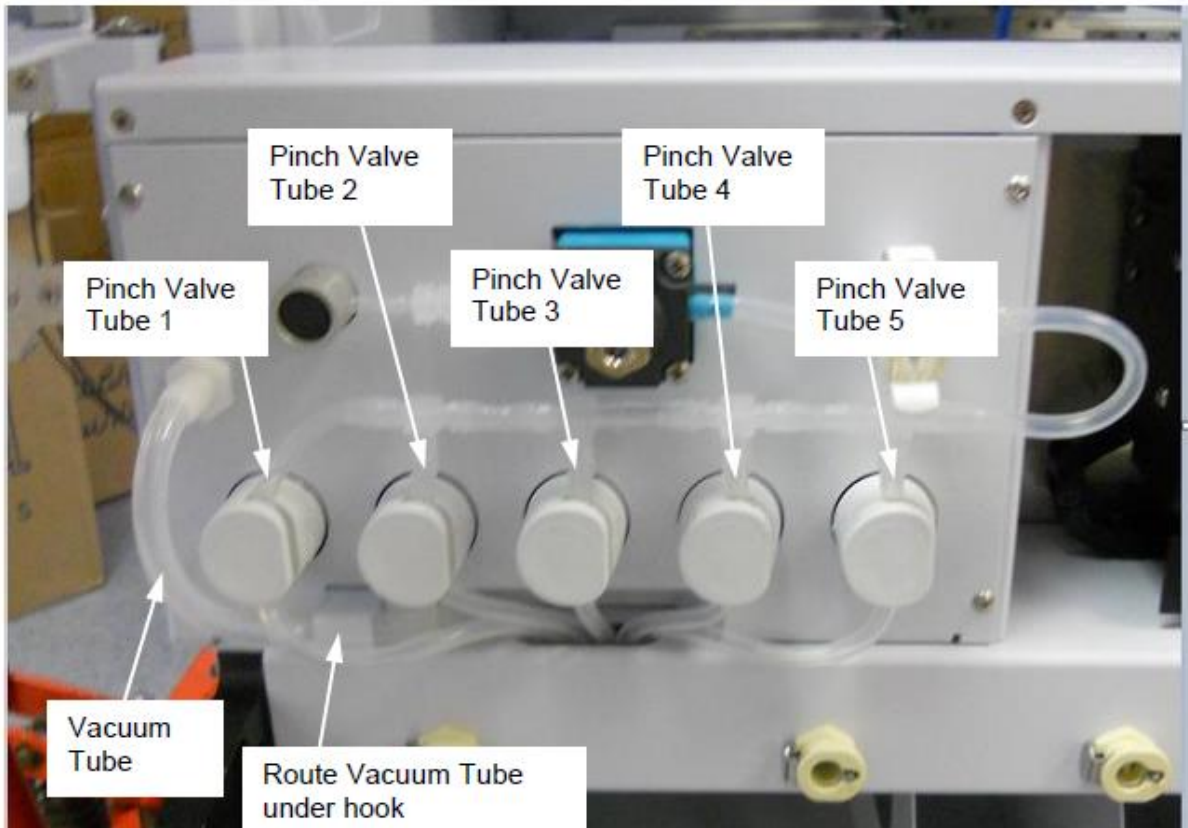

Figure G-2: Fluidics Panel Assembly Connections
2. Disconnect the Vacuum Tube from the bulkhead as shown in Figure G-2.